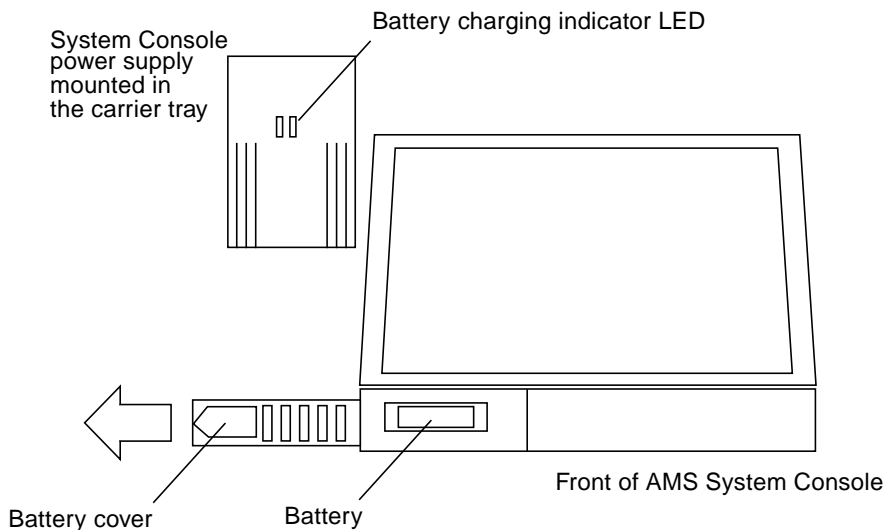
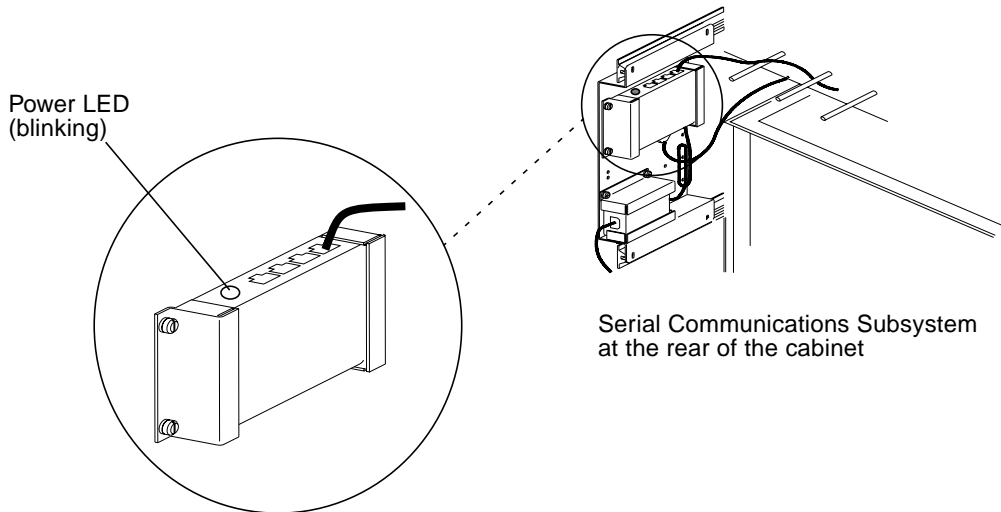

FIGURE 7-9 AMS System Console Battery and Battery Status LED
FIGURE 7-11 Serial Communications Subsystem Power Supply LED
1. Slide the battery cover to the left (see FIGURE 7-9).
4. **Make sure the cabinet is powered on. Make sure the System Console power supply power LED is on; this power supply is located to the left of the System Console (FIGURE 7-9). Make sure that the power LED of the Serial Communications Subsystem (inside the cabinet rear door) is blinking.** See FIGURE 7-11.